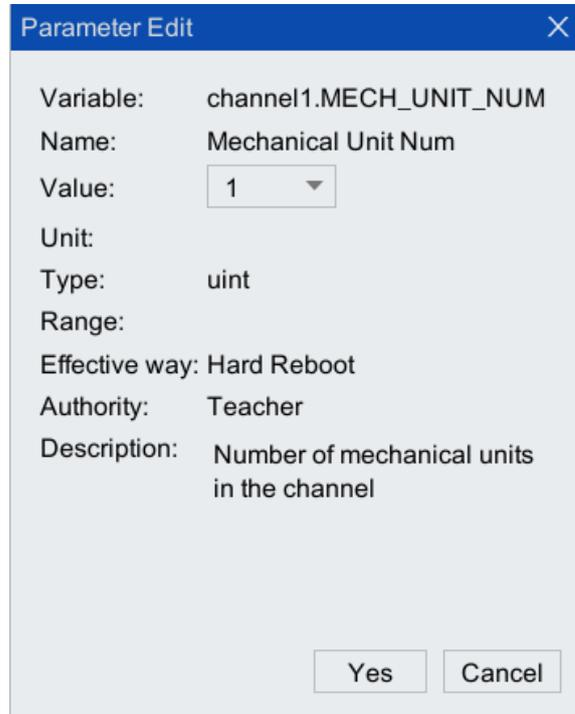

Figure 10-20 Mechanical unit quantity configuration interface
Step4.In the [Channel] configuration interface, click to select the row where [MECH_UNIT_NUM (mechanical unit number)] is located, and set the [Value] to "1", as shown in Figure 10-20. Click <Yes> to complete the configuration.